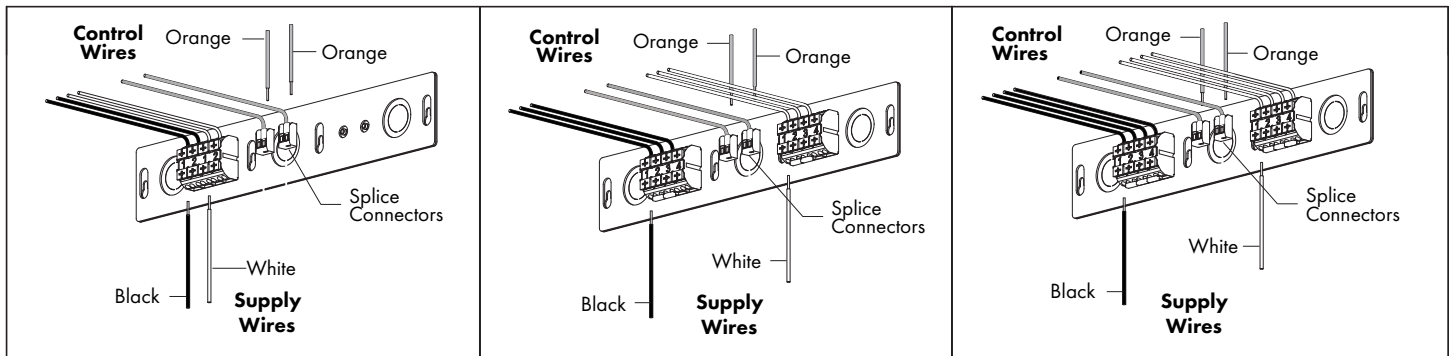

FIG 26.2 Attach Supply & Control Wires
STEP 2 Make wire connections noting individual lamp circuit numbers - **FIG 26.2 & 26.3**.